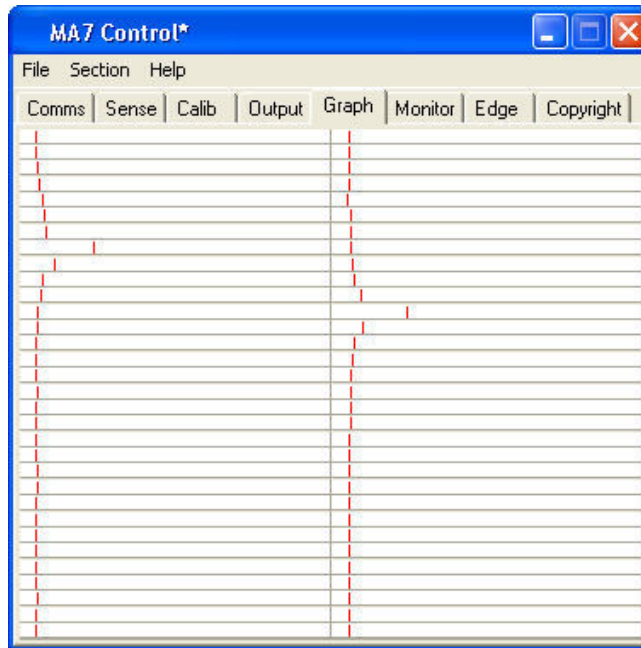

Fig 9
2. Run a finger around the sensor, the effect of the finger on nearby wires can be seen by a visible movement on the indicators (Fig 9), each representing one wire. The algorithm in the driver interpolates the response curve to generate an accurate co-ordinate for the finger position.